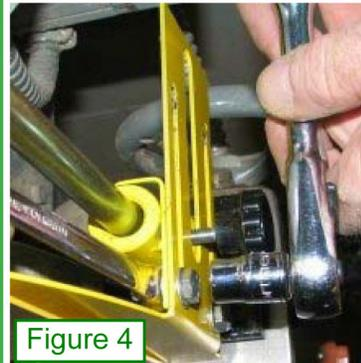
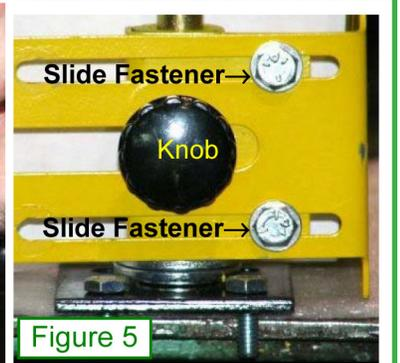

Figure 4
Figure 5
6. Make sure sander table is at a right angle to disc. Adjust if necessary. Lower the **13385** to rest on table as shown in Fig. 5.
7. Loosen 4 slide adjustment fasteners as shown in Fig. 4 and Fig. 5.
9. With lower edge of guard resting on table, and the **13385** properly aligned, (Fig. 5) tighten 4 slide fasteners in slots that were loosened in Step 7.